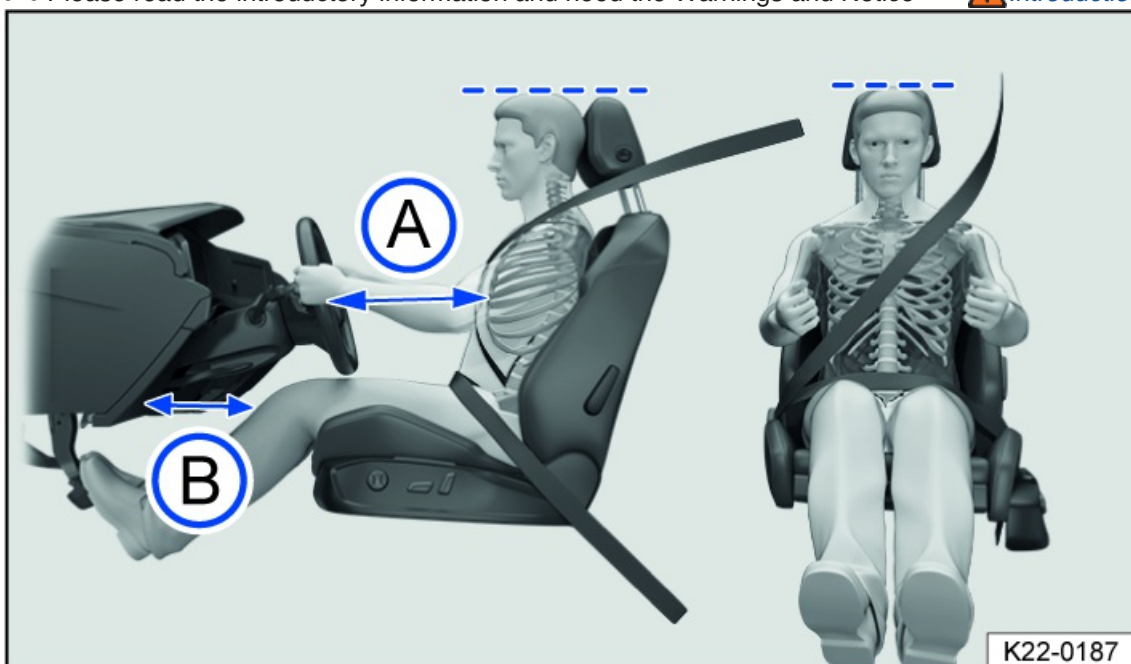

Fig. 14 Correct distance between the driver and the steering wheel, correct safety belt position and correct head restraint adjustment (general example).
- Adjust the head restraint so that the upper edge of the head restraint is in line with the upper portion of the head as much as possible, but not lower than eye level. Position the back of the head as close as possible to the head restraint *fig. 14*.
- Adjust the forward/back position of the driver seat so that you can press the pedals while your legs are slightly bent and there is at least 10 cm (around 4 inches) of space between the instrument panel and your knees *fig. 14*.
- Adjust the steering wheel so that the distance between the steering wheel and your chest is at least 25 cm (around 10 inches) *fig. 14* and you can hold the steering wheel firmly at the sides with both hands and your elbows slightly bent.